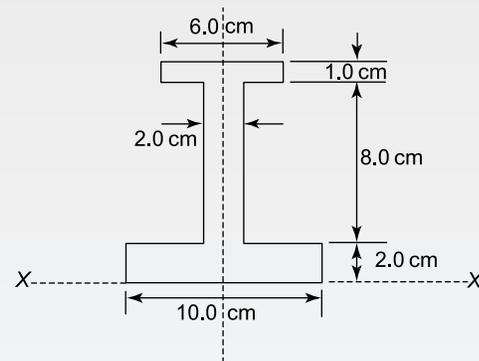

Figure RT3.3
4. A beam of length 4 m is simply supported at its right extremity and at 1 m from the left extremity. If the beam is loaded with a downward load of 2 kN at its left extremity and with another downward load of 10 kN at a distance of 1 m from its right extremity, sketch its bending moment and shearing force diagrams. (7)
5. (a) Find the second moment of area and radius of gyration about the axis  $XX$  for the beam section shown in Figure RT3.3.